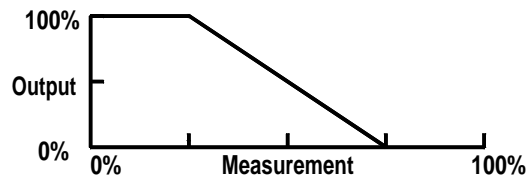

Figure 41.6: Problem 41.5.
- 41.5 A negative feedback controller has a response curve as shown in Figure 41.6 where the output of the controller is plotted against the measurement expressed as a percentage of the range. If the error is zero when the system is operating at 50% of load, calculate the error for 10% of load and for 60% of load.